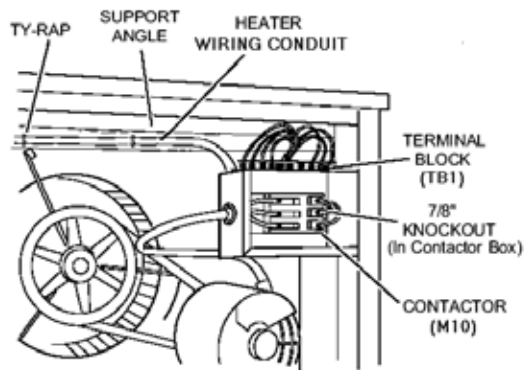

Figure 3: Contactor Box & Heater Conduit Support
- Remove the access panel of the blower motor compartment from the indoor unit for access to the blower motor contactor box and low voltage terminal block TBI. (Refer to Figure 3.)
13. Remove the 7/8" knockout from the back panel of the contactor box and insert the 1/2" flex conduit fitting, provided with the accessory, into this opening. (Refer to Figure 3.) Secure fitting in contactor box by tightening the locknut.
18. Secure the flex conduit to the support angle with the two ty-raps provided with the accessory. Holes are pre-punched in the support at the locations shown in Figure 3.